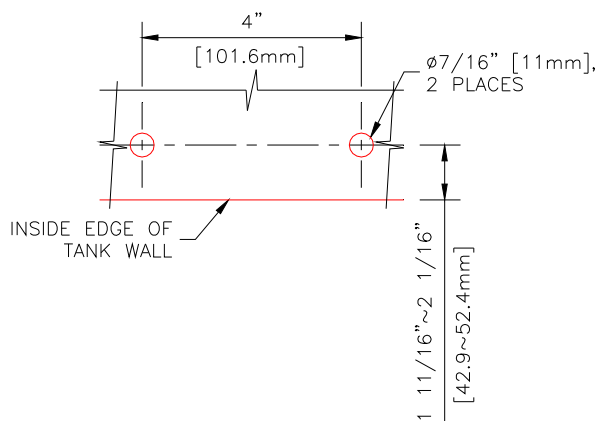
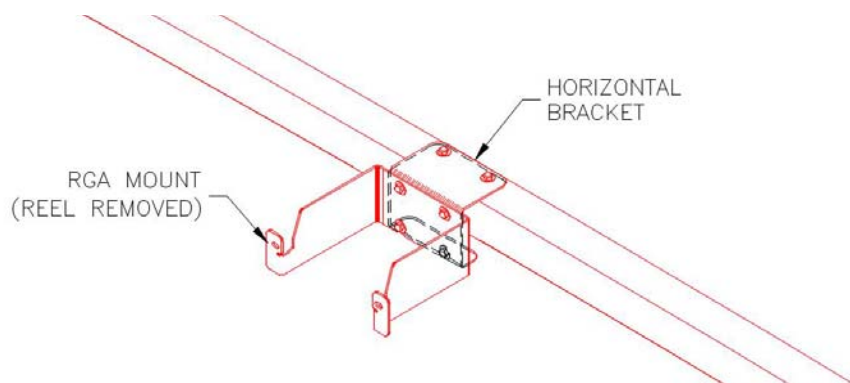

Figure 5: Horizontal Bracket – Hole Dimensions
Figure 6: Attaching the Horizontal Bracket to Tank Rim Angle
Mounting the RGA using the Horizontal Bracket – Two (2) 7/16" [11mm] diameter holes need to be made in the field on the tank lip using the Horizontal Bracket as a template. See Figure 5, Horizontal Bracket - Hole Dimensions. Scrape paint and rust from around the drilled holes and under the Horizontal Bracket to bare metal. Apply Lectra Shield to both sides of the hole and all bare metal to prevent rusting. Using the supplied hardware, secure the Horizontal Bracket to the tank rim angle and apply Lectra Shield to the hardware after assembly. Attach the RGA Mount and Reel assembly to the Horizontal Bracket. See Figure 6, Mounting the Horizontal Bracket to the Tank Rim Angle.